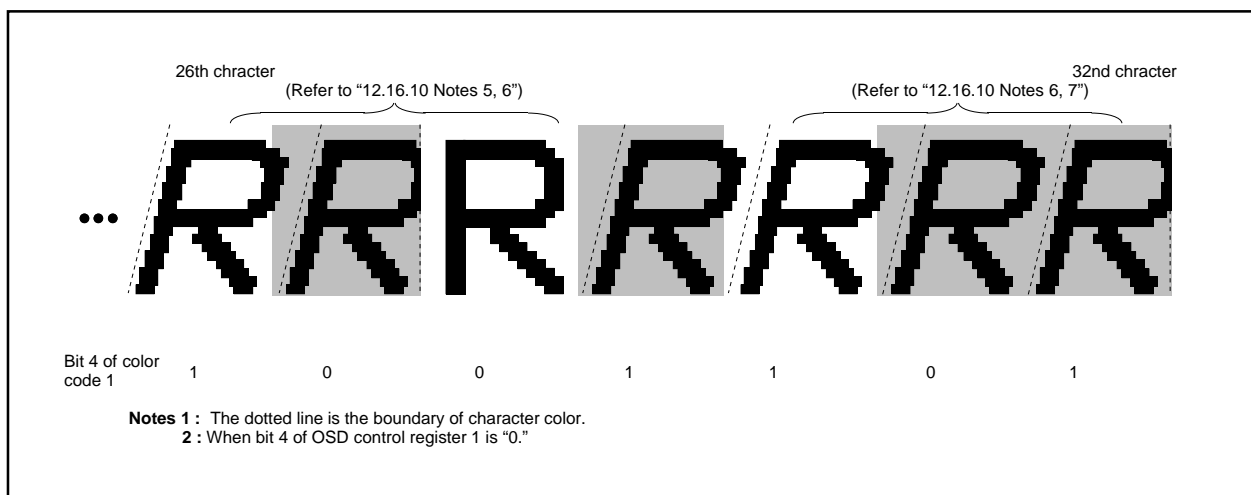

Figure 2.16.33 Example of italic display
The display example attribute is shown in Figure 2.16.33. In this case, "R" is displayed.
- 5: The boundary of character color is displayed in italic. However, the boundary of character background color is not affected by the italic (refer to Figure 2.16.33).
- 6: The adjacent character (one side or both side) to an italic character is displayed in italic even when the character is not specified to display in italic (refer to Figure 2.16.33).
- 7: When displaying the 32nd character (in 32-character mode)/42nd character (in 42-character mode) in the italic and when solid space is off (OC14 = "0"), parts out of character area is not displayed (refer to Figure 2.16.33).